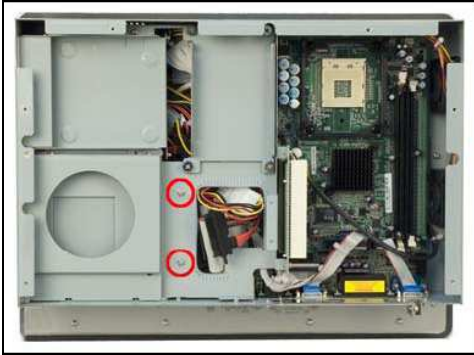

Figure 4-2: Internal Elevated Platform Retention Screws
Step 2: The elevated platform is secured to the chassis with eight retention screws, two on the platform (see **Figure 4-2**), two on the top panel (see **Figure 4-3**), two on the right panel (see **Figure 4-4**) and two on the bottom panel (see **Figure 4-5**).